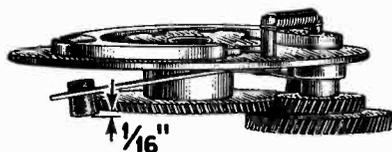

Figure 4—Adjustment of damper pads
- (c) **Improper Adjustment of the Damper Pads.** The damping pads with the necessary springs are provided to place a load on the $33\frac{1}{3}$ R.P.M. driving gear at all times while it is in operation. Placing such a load on the gear takes up any possible play and reduces the possibility of a "wow" during operation at the slower speed. Adjust these pads by slipping each spring to one side and bend them until they are $\frac{1}{16}$ " beyond the opposite surface upon which they rest. (See Figure 4).
(2) ADJUSTMENT OF MAGAZINE ROLLER